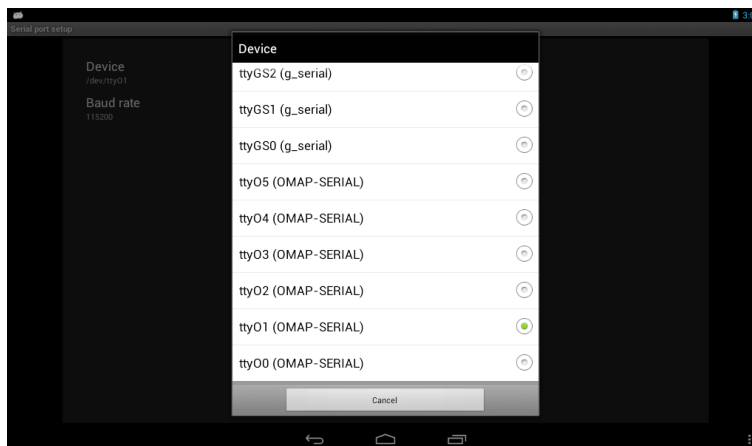

Figure 2-5 Serial settings
(1) Connect COM1 on board to PC. Use software “SecureCRT” or “Putty” or some others in PC. Run “Serial Port API” App to communicate with PC. Like Figure 2-5.